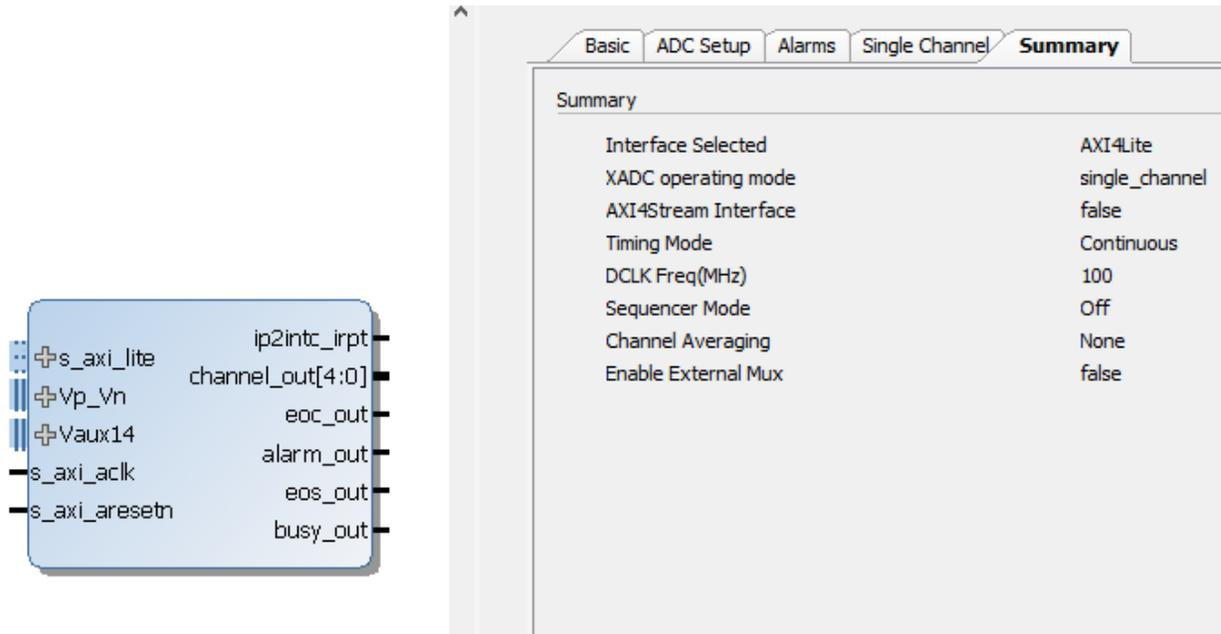

Figure 7: Complete XADC Wizard
- Your XADC IP block / summary should look something like Figure 7